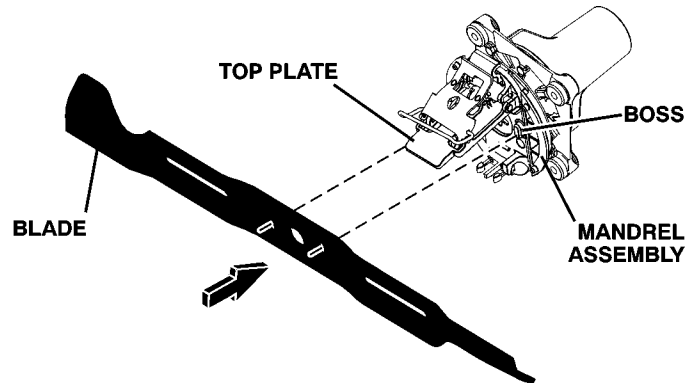

Fig. 31
- Align bosses and insert blade. (See Fig. 31.)